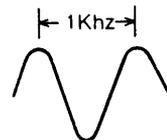

Figure 9
- 6- Apply 38.9 MHz signal modulated with video signal and 1kHz (6.5 MHz carrier) to pin 3. Adjust Fi209 for optimum waveform on pin 23 or 27 (standard D/K) (Fig.9).
- 7- Apply 38.9 MHz signal modulated with video signal and 1kHz (5.5 MHz carrier) to pin 3. Adjust Fi210 for optimum waveform on pin 23 or 27. (Standard B/G) (Fig. 9).